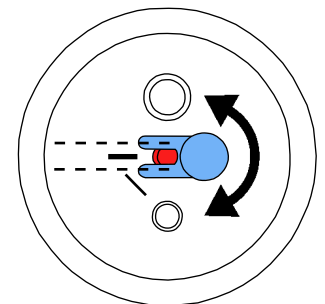

Fig. 12
- The dosing nozzle must be adjusted with blasting tanks of 25 - 70 μm (Fig. 12)!